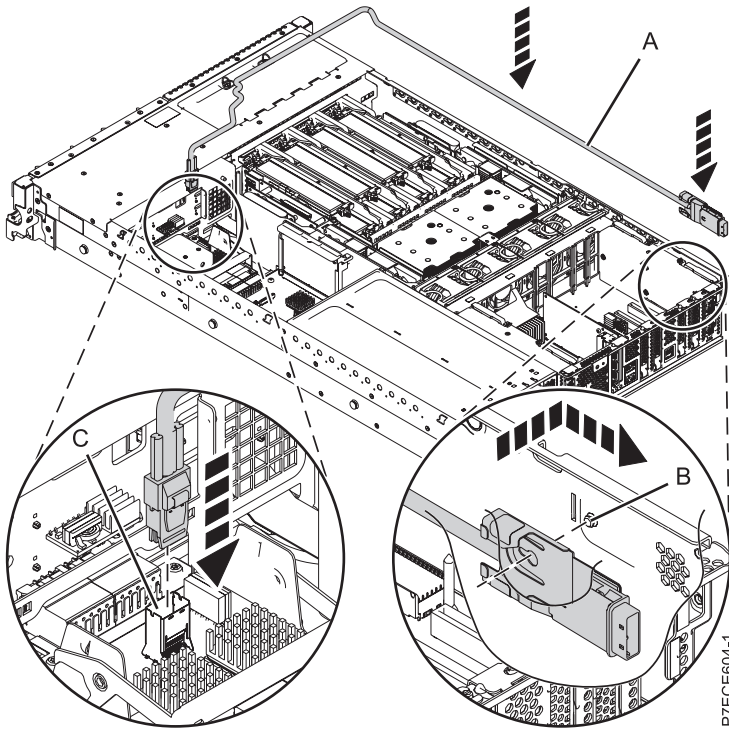

Figure 39. Replacing the SAS cable
3. Connect the mini-SAS connector of the SAS cable to the internal SAS connection port (C) on the storage interposer until it snaps in place. See Figure 39 on page 64.
4. Route the cable (A) in front of the memory riser cage and along the channel in the side wall until the SAS port connector is near the opening on the rear of the chassis.
5. Align and guide the slot in the bracket of the SAS port connector (B) over the guide pin in the chassis. Then slide the SAS port connector into the opening on the rear of the chassis until the tab on the bracket snaps in place.